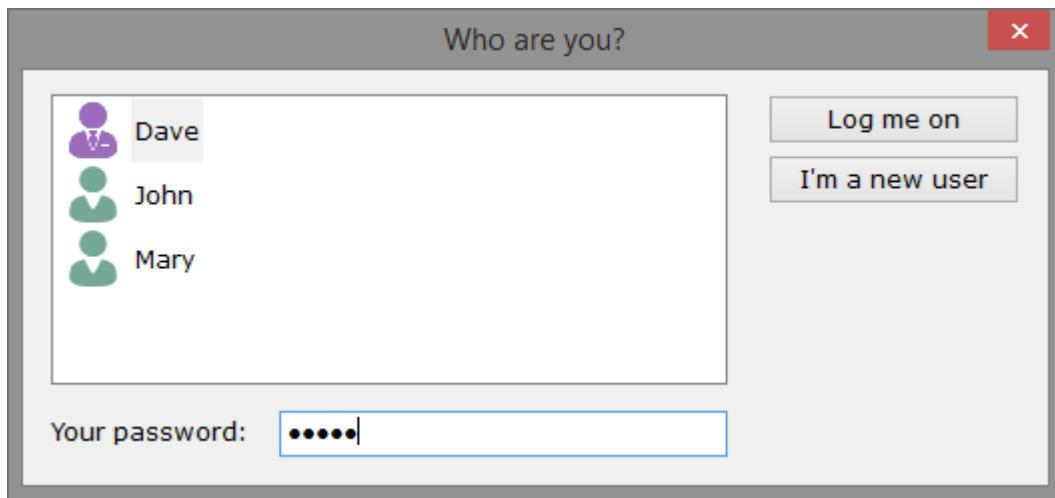

Figure 2. The ANY-maze log-on window, including the I'm a new user button. By clicking it, new users can set up their own ANY-maze user accounts.
- Managing users in ANY-maze is very simple - see figure 2, above.
Allow new users to create accounts If you select this option, then ANY-maze will include a button labelled *I'm a new user* on the log-on window - see figure 2. If a user clicks this button then they will be asked to provide a user name and password, and ANY-maze will then create a new user account for them.